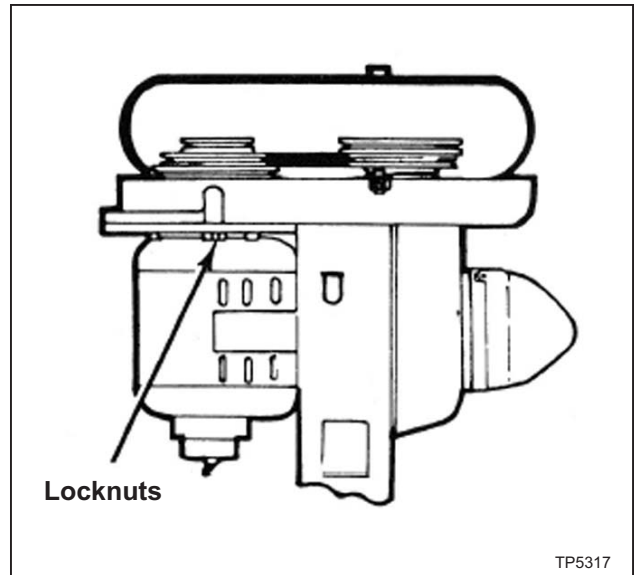

Figure 2.34 - Changing E-Head Speed
2. Loosen the two motor locknuts (see Figure 2.34).